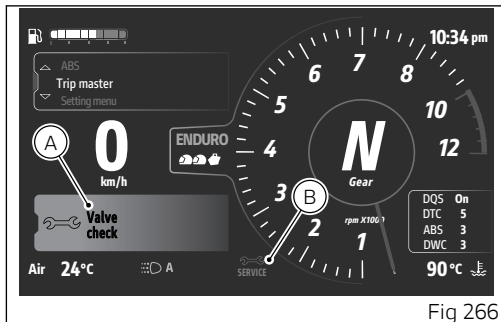
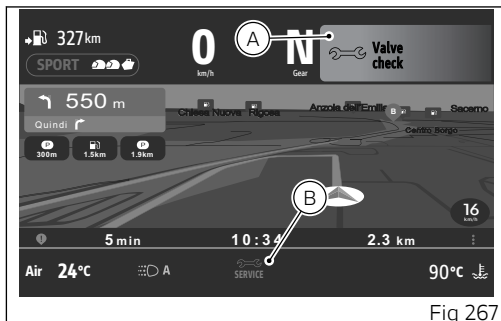

Fig 266
Fig 267
Service coupon deadline warnings are displayed in 2 modes: big (A) and small (B). These figures indicate the corresponding positions in the main page (Fig 266) and in the Ducati Connect page (Fig 267).